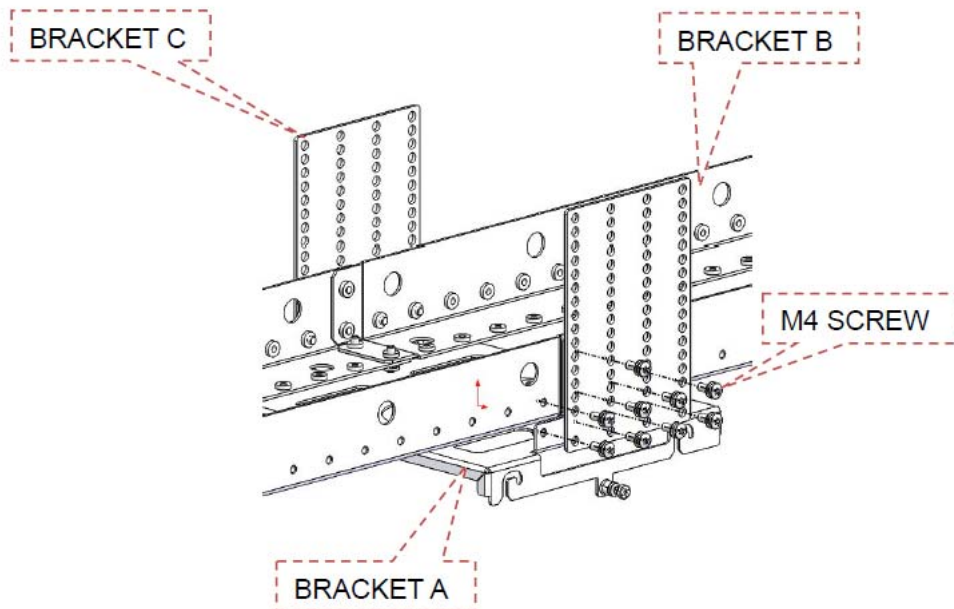

Figure 20
Step 2 Use M4 screw fit bracket A, bracket B and Bracket C together. As Shown in figure 20.
3. Click  to enter the **Slave Properties** page, as shown in Figure 20.